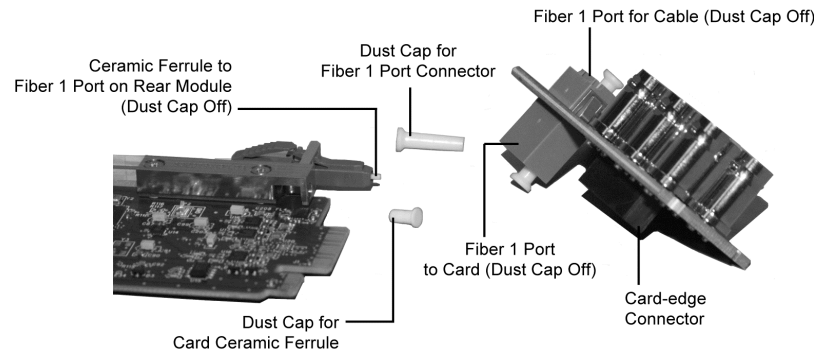

Figure 2.3 Card Connectors with Dust Caps Removed
- Refer to **Figure 2.1** and **Figure 2.3** for connector location.